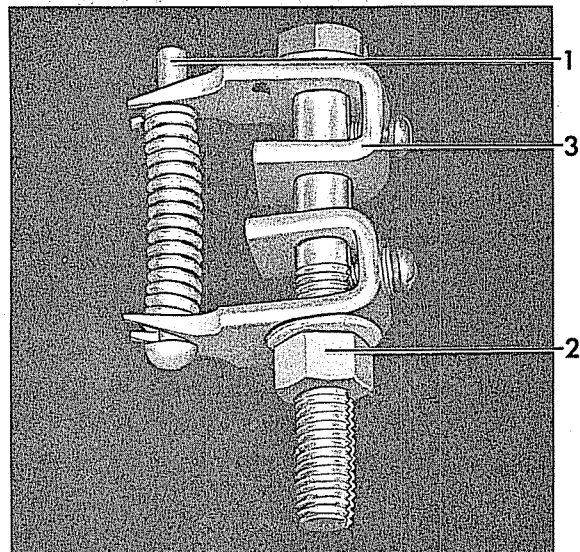

Figure 24B (8034465)
3. Turn nut (2) clockwise direction to compress contact spring (Figure 24B). Hold spring firmly in yoke on spring compressor to prevent spring from slipping out of the compressor.